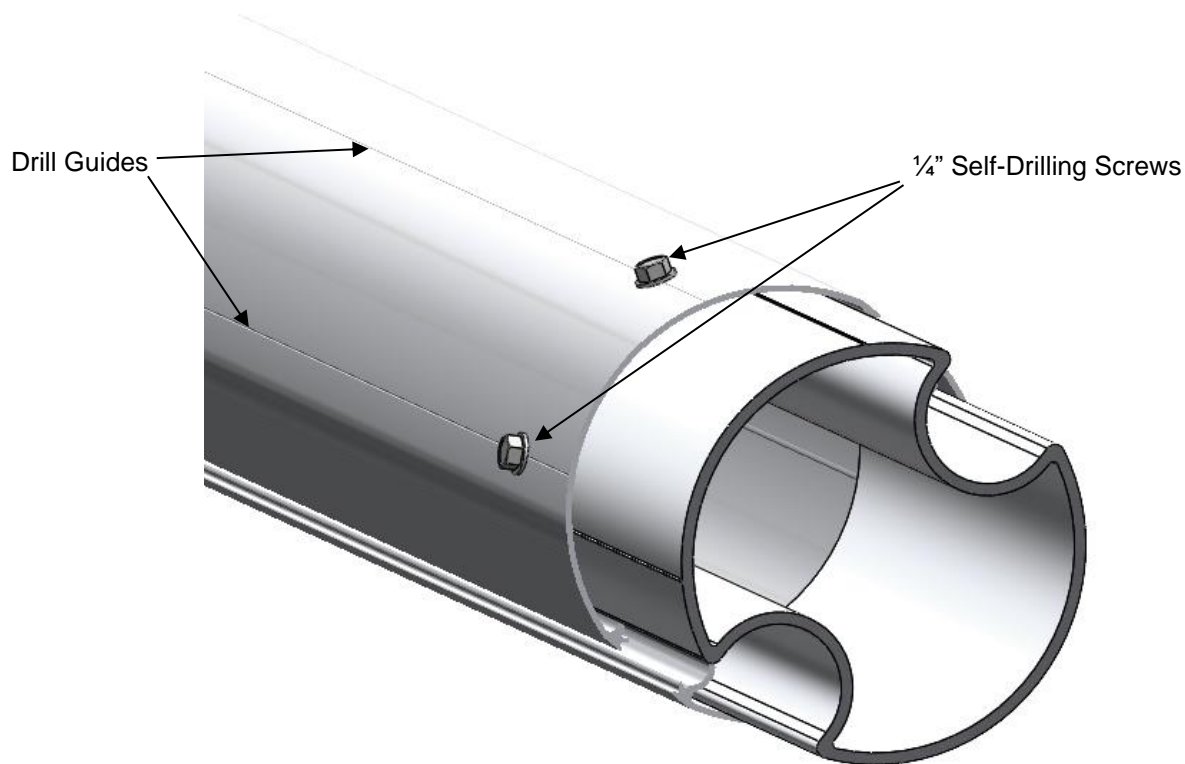

Figure 14: Two self drilling screws locations on the Rail Joiner
- i. Insert half of the length of the Joiner into the end of second rail of the run. Fasten the Joiner to the rail using two ¼" Self-Drilling Screws. The screws must be in the drill guide, on the same side of the rail and 3" from the end of the rail (Figure 14).